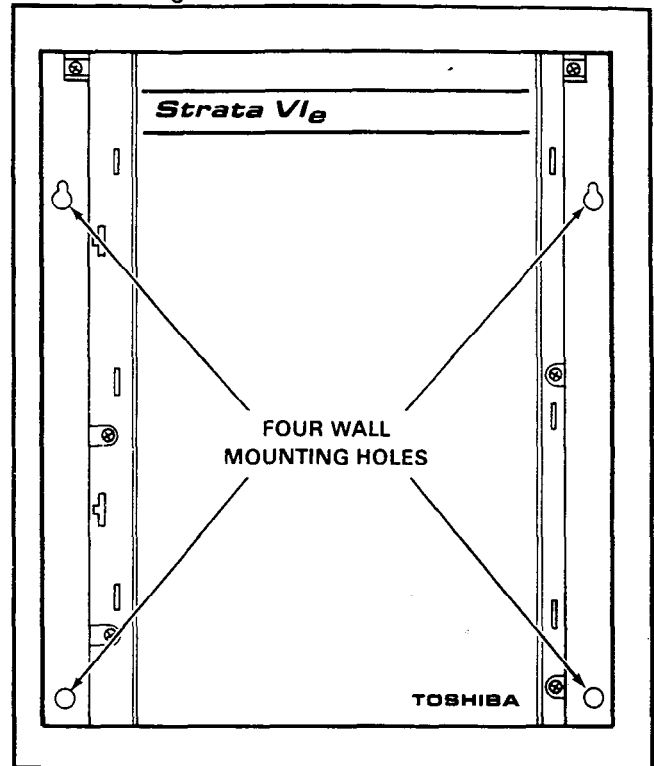

FIGURE 3—HKSU WALL MOUNTING
7) A completed installation should appear as shown in Figure 3.